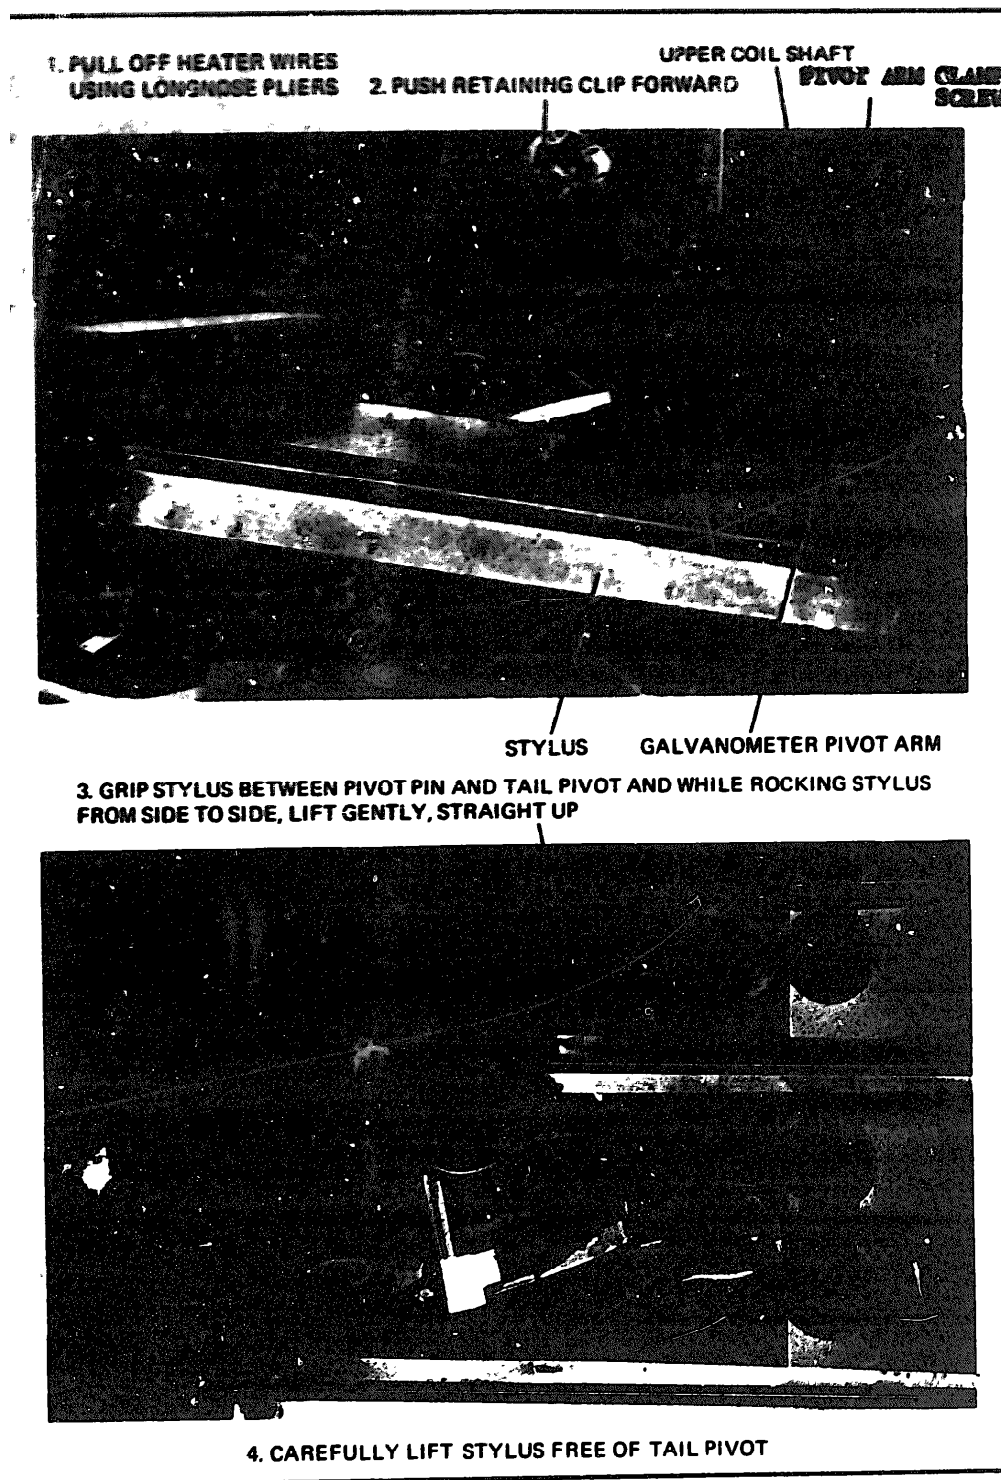

Figure 5-11. Stylus Removal and Replacement
- Loosen pivot arm clamp screw (Figure 5-11), but only enough so pivot arm moves on galvanometer upper suspension with a little resistance.
- Slide pivot arm so its upper surface is flush with top of upper coil shaft (Figure 5-11). Tighten pivot arm clamp screw firmly.
To remove the stylus, perform the following procedure (Figure 5-11):